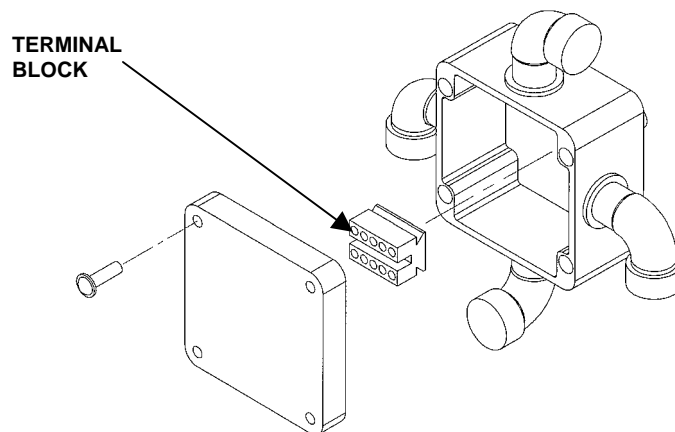

Figure 3. Terminal Block.
1. Loosen four screws (5) from the cover and remove the cover (7).
3. Remove chlorine pump conduit from hub (1).
4. Remove control panel cable from hub (4).
5. Remove antiscalant pump conduit from hub (9).
6. Remove coagulant pump from hub (6).
7. Remove four screws (8), nuts (3), and washers (2) from junction box. Remove the junction box.
8. Remove end stops from the mounting rail and Pry off the terminal block from the mounting rail. See Figure 3.